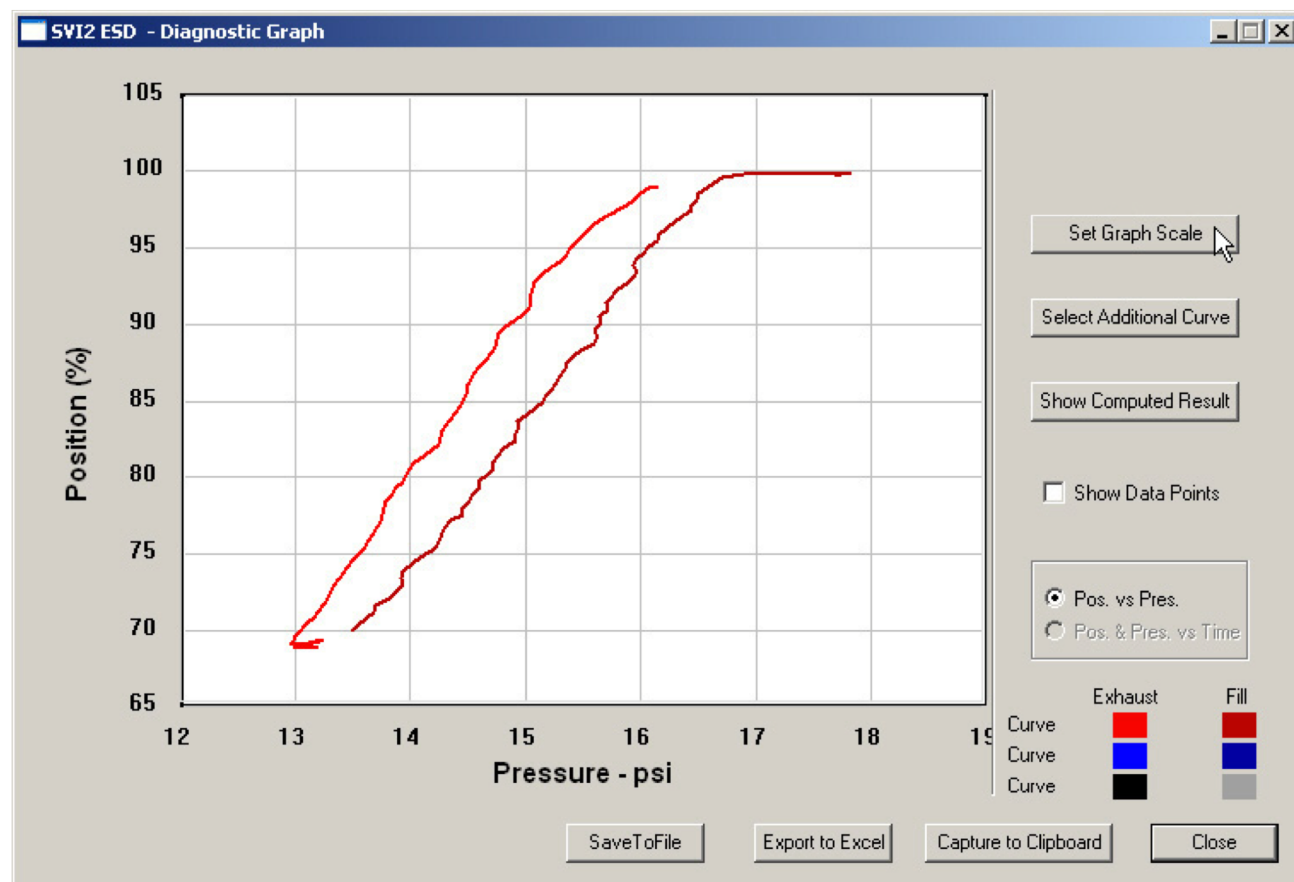

Figure 207 - Selecting Set Graph Scale
1. Select **Set Graph Scale** (Figure 207).